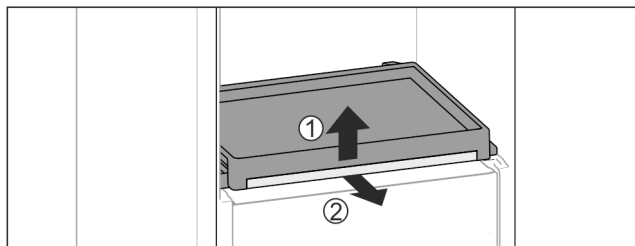

Fig. 31
- To remove the pull-out board with glass panel: Gently lift the glass panel at the front Fig. 31 (1) and pull out to the front Fig. 31 (2).